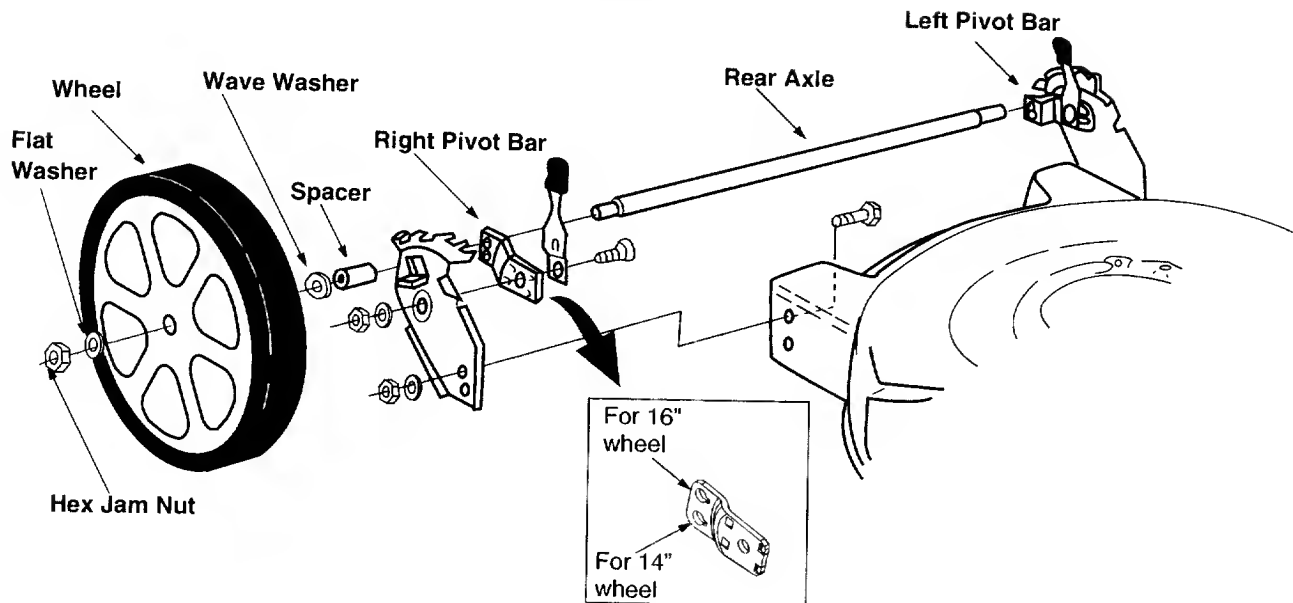

FIGURE 6
IMPORTANT: There are two holes on the pivot bar. You will have to attach the axle shaft through the top hole of the right pivot bar when installing 16" diameter wheels, and through the bottom hole when installing 14" diameter wheels. Use the same corresponding holes on the left pivot bar. See Figure 6 inset.
- Rotate the axle shaft until first tab on the right side of the axle shaft clears the hole in the right pivot bar. Rotate further until second tab on the right side of the axle shaft locks into the hole in the same pivot bar. The tab on the left side of the axle shaft should hit on the surface of the left pivot bar. See Figure 6.
- Place wheel assembly on end of axle. Secure with one flat washer and one hex jam nut. See Figure 6. Tighten securely.